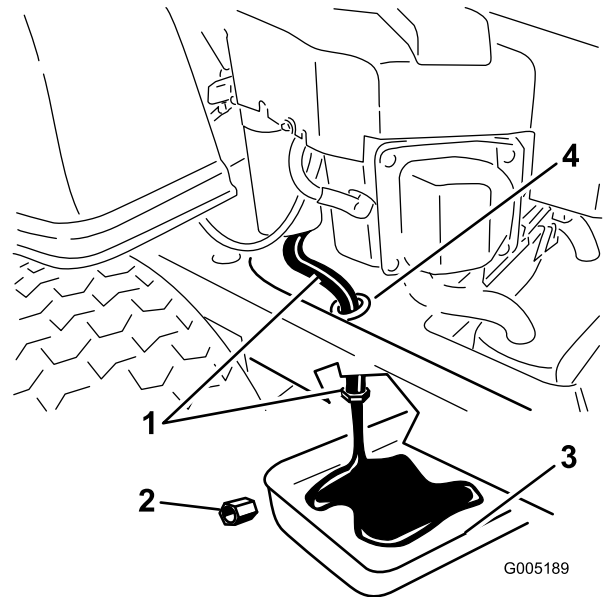

Figure 30
5. Locate the oil drain hose on the left side of the engine. The drain plug is attached to a drain hose routed through a drain hole in the machine frame (Figure 30). Clean the area around the oil drain plug cap and the oil drain hose.
6. Place a pan underneath machine directly below the oil drain hose as shown in Figure 30.
7. Using two wrenches (one to hold the oil drain hose and one to loosen the plug), remove the oil drain plug (Figure 30).
13. When oil has drained completely, install the oil drain plug. Tighten the plug to 14 N-m (125 in-lb) torque. Wipe up any excess oil (Figure 30).